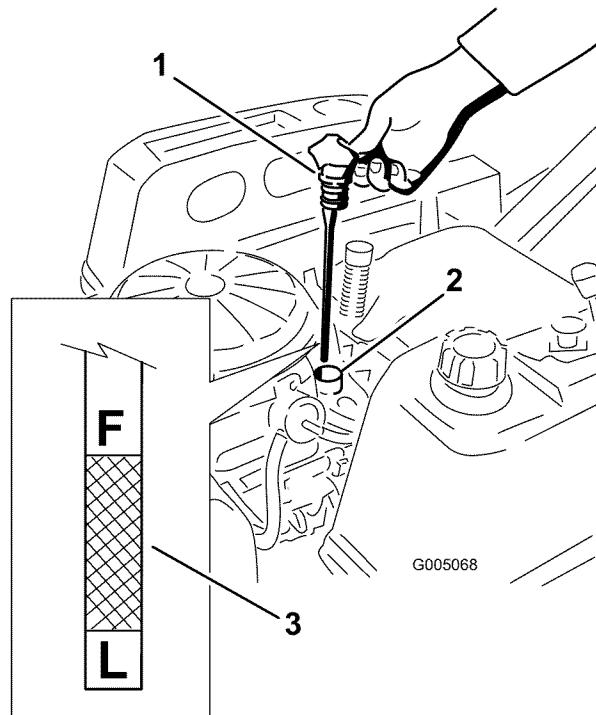
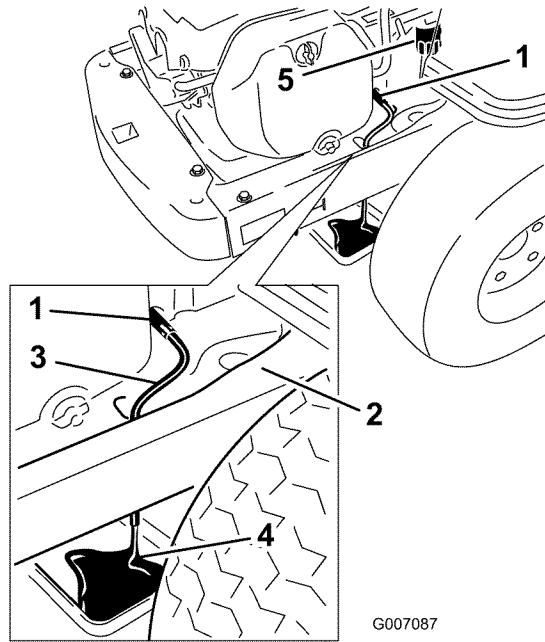

Figure 25
Figure 27
5. Remove the dipstick and check the oil level. (Figure 25).
4. Pull and remove the oil fill cap/dipstick; wipe oil off. Reinsert the dipstick and push firmly into place (Figure 25).
7. Place a pan underneath machine directly below the drain hole in the frame as shown in Figure 27.
8. Open the oil drain valve to allow oil to drain (Figure 27). Remove the oil fill cap/dipstick (Figure 25).
10. Remove the old filter and wipe off the mounting pad (Figure 27).
11. When oil has drained completely, close the oil drain valve. Remove the oil drain hose and wipe up any excess oil on the frame (Figure 27).
15. Slowly pour approximately 80% of the specified oil into the filler tube (Figure 25).
16. Install the oil fill cap/dipstick and push firmly into place (Figure 25).
17. Check the oil level (Figure 25); refer to Checking the Oil Level.
19. Install the oil fill cap/dipstick and push firmly into place (Figure 25).